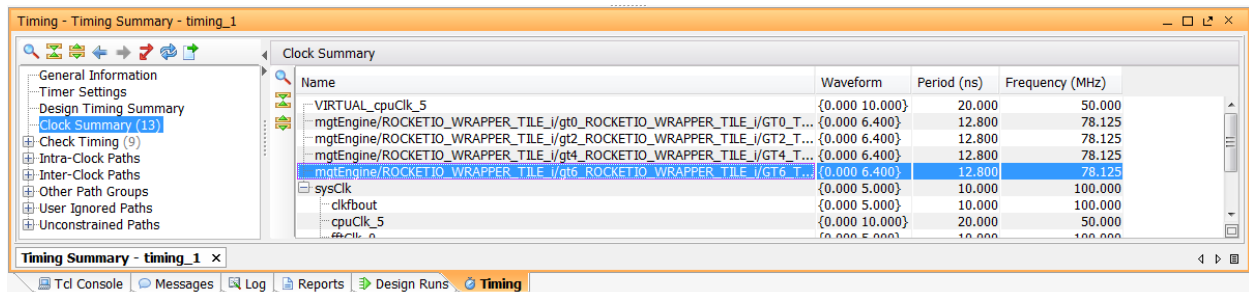

Figure 28: Clock Summary
- In the timing summary tree, select the **Clock Summary**, as shown in Figure 28. The clock summary section of the timing summary report lists all the clocks in the design and shows the resulting frequencies and waveforms of each clock. The hierarchy shows the relationship between the generated clocks and the primary clock (for example, cpuClk_5 vs. sysClk). For example, it shows that cpuClk_5 is generated from primary clock SysClk, and its period is twice that of sysClk.